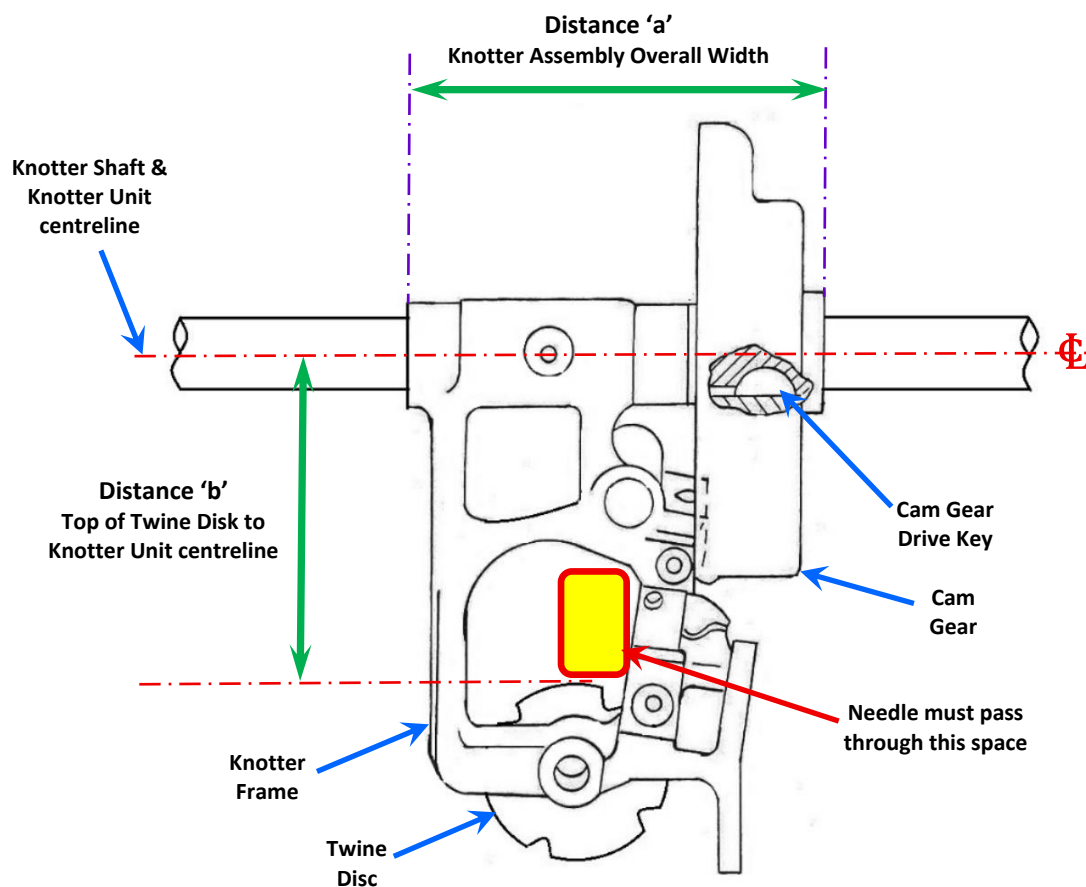

Fig.4.5 Replacing the knotter assembly – Important dimensions
Key Questions to Ask / Things to Check (see Figs 4.5 & 4.6)
- o Are the replacement Knotter Assemblies narrower / no wider than the original Knotters? (**Distance 'a' - Fig.4.5**)
- o Is distance from Knotter Shaft / Knotter Unit centreline to top edge of Twine Disc (**Distance 'b' - Fig.4.5**) on the Replacement Knotter no smaller than on the old knotters?
The key 'deal / no deal' question concerns the distance between the Replacement Knotter's Twine Disc and the Knotter Shaft centreline (**Distance 'b' - Fig.4.5**). Whilst it **may be possible** to move the existing Needles sideways slightly (*assuming they aren't seized on their shaft*), it almost certainly won't be possible to modify the position of the Knotter Shaft.
The Needle must pass correctly through the Knotter Frame (*through the yellow-shaded area in Fig.4.5*), to deliver the twine into the Knife Arm twine groove, over the Bill Hook & into the waiting Twine Disc 'notch'. So, **Twine Disc position is critical**, and this depends on the length of the replacement Knotter Frame (**Distance 'b'**).